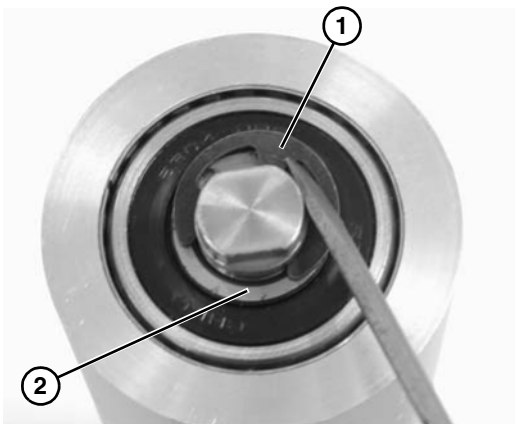

Figure 44
- Remove the pulley shaft assembly: remove the clip ring (**Figure 44, item 1**) and washer (**Figure 44, item 2**) from one side of the pulley assembly.